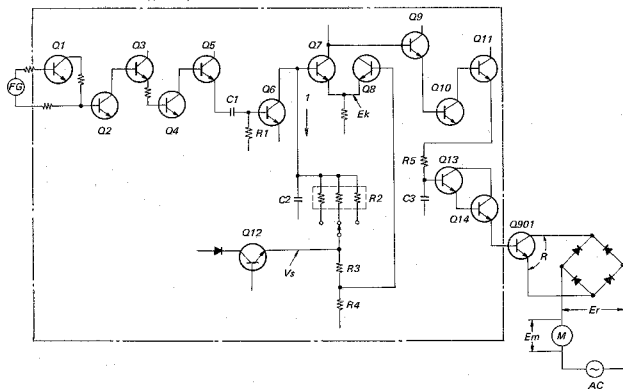
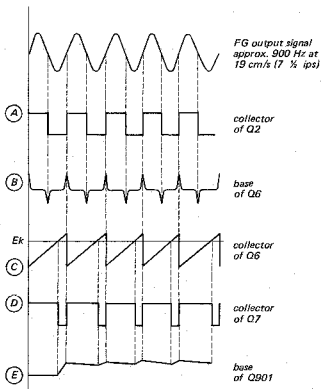

Fig. 9. Servo amplifier outline
Fig. 10. Waveform at each point
Servo amplifier which changes impedance R operates as follows : See Fig. 9 and Fig. 10.
- 1) Sine wave signal generated by frequency generator FG is transferred to bases of Q1 and Q2. Since base bias voltages of Q1 and Q2 are set to saturation region, sine wave signal is waveshaped to square wave signal shown by (A) in Fig. 10.
- 2) Square wave signal from Q2 is amplified by Q3, Q4 and Q5. It is transferred to differentiating circuit comprising C1 and R1 and is waveshaped to pulse shown by (B) in Fig. 10. Then it is transferred to base of Q6.
When pulse shown by (B) in Fig. 10 is transferred to base of Q6, Q6 repeats ON and OFF states. C2 discharges while Q6 makes current flow as shown by the arrow (1) in Fig. 9. Thus sawtooth wave signal shown by (C) in Fig. 10 is obtained at collector of Q6.
- 5) The sawtooth wave signal is supplied to base of Q7. Since the emitter voltage  $E_k$  is kept constant, Q7 turns ON only when the peak value of sawtooth wave signal is greater than  $E_k$ . When Q7 turns ON, the negative pulse shown by (D) in Fig. 10, appears at collector of Q7.
- 6) This pulse is amplified by Q9, Q10 and Q11, and its polarity is inverted. The positive pulse is transferred to the integrator comprising R5 and C3, and is waveshaped as shown by (E) in Fig. 10. After being amplified by Q13 and Q14, it is transferred to base of Q901. And this base voltage changes impedance between collector and emitter of Q901 and controls motor speed.